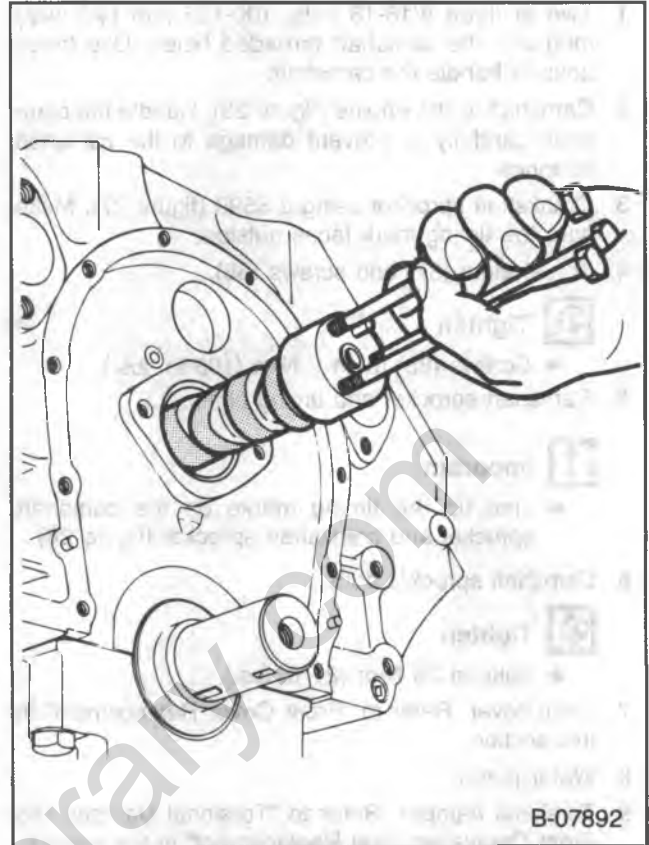

Figure 28 — Replacing the Camshaft
- Install two or three 5/16-18 bolts 100-125 mm (4-5-inch) long into the camshaft tapped holes. Use these bolts to handle the camshaft (figure 28).
2. Camshaft to the engine (figure 28). Handle the camshaft carefully to prevent damage to the camshaft bearings.